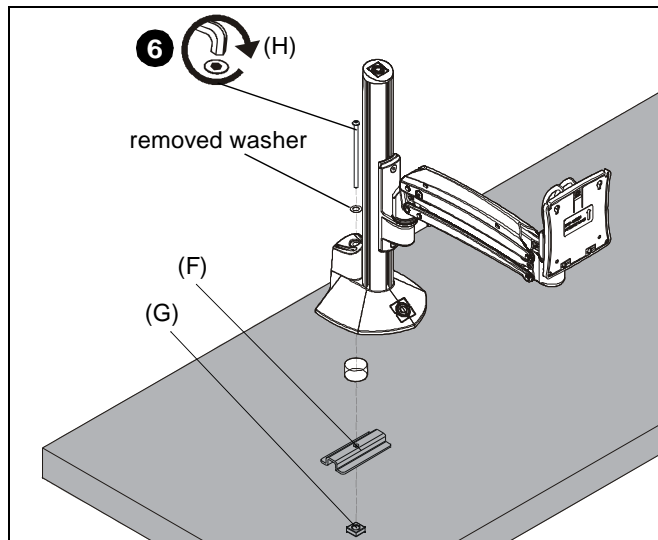

Figure 6
5. Place mount on desk over grommet hole. (See Figure 6)
6. Use 5/16-18 x 6" button head cap screw (H), removed washer, clamp bracket (F) and 5/16-18" square nut (G) to secure mount to desk. (See Figure 6)